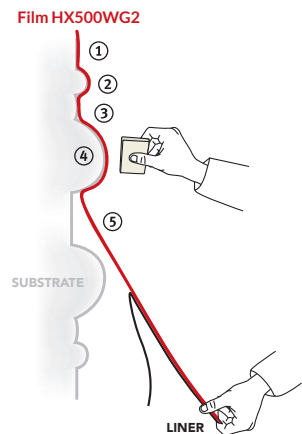

Figure 07
- › Remove the liner gradually by tensioning it towards the lower end. (FIG. 07)
- › Apply the hollow ①, then the peak ② and afterwards the hollow ③.
- › Go up onto the next undulation ④, then keep going ⑤ until completion of the application.